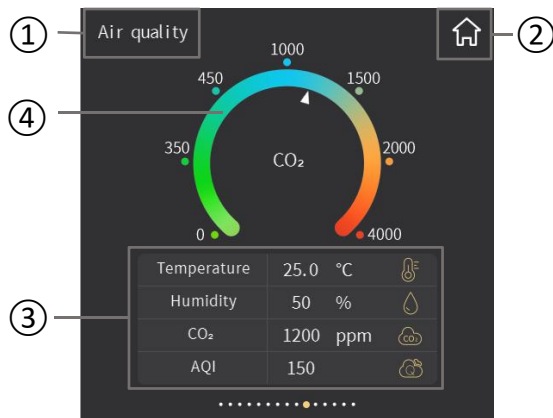

Fig.2.9.1
④ This ring strip is used for displaying the air quality parameter value;
Touch one of the items in the display list at the bottom of the interface, the pointer on the ring strip④ will point to the corresponding scale, such as Fig.2.9.1 above is the display effect of CO₂, Fig.2.9.2 is the display effect of temperature, Fig.2.9.3 is the display effect of AQI and Fig.2.9.4 is the display effect of humidity.